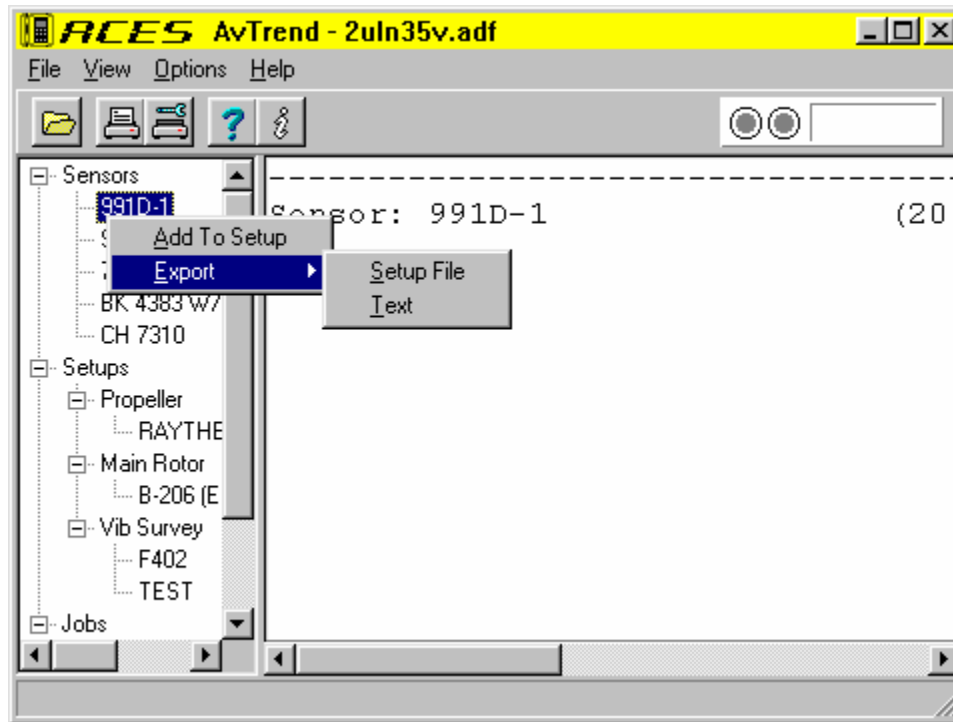

Figure 35: Sensors menu and submenu; sensor data are showing in the Data Viewing Area.
2. Right-click to open the sensor submenu (see Figure 35 above).